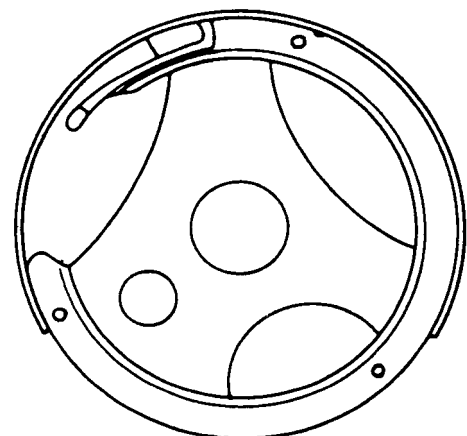

Fig. 105
- Insert the bobbin case base complete with sewing hook gib into the sewing hook (fig. 105).